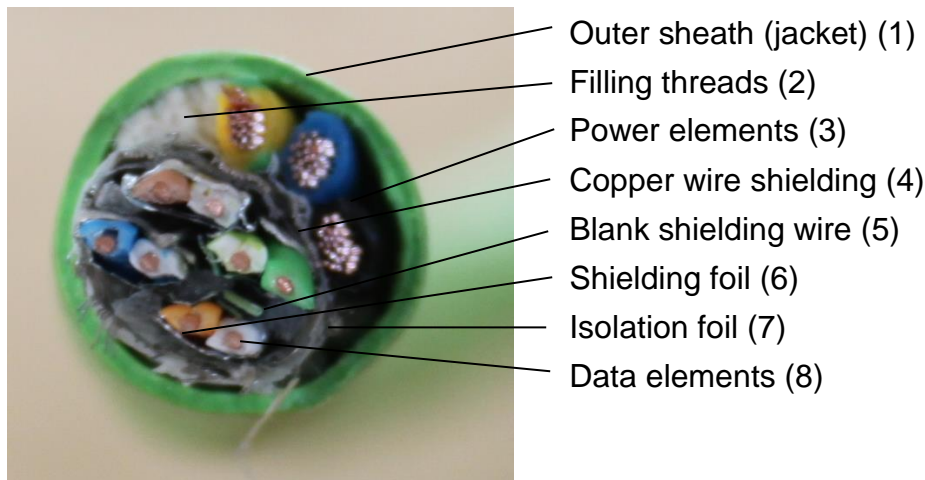

Figure 2.1 – Cable cross section
| Figure 2.1 | – Cable cross section .....                            | 4 |
Strip 25 cm off the green jacket (q.v. chapter 2.1, figure 2.1 (1)) and cut off the isolation foil (7). Please make sure not to damage the individual wires of the connecting cable. Cut off the white filling threads (2) and remove the foil around the network cables (6). Then separate the shield and cut off the blank shielding wire (5) and the shielding braid (4) so that the foil around the cables can be removed. To prepare the twisted pairs (8) for the kneading screw connection, they need to be untwisted.